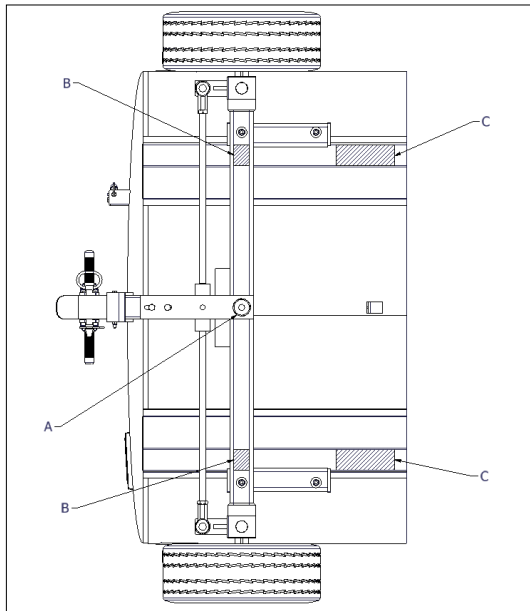
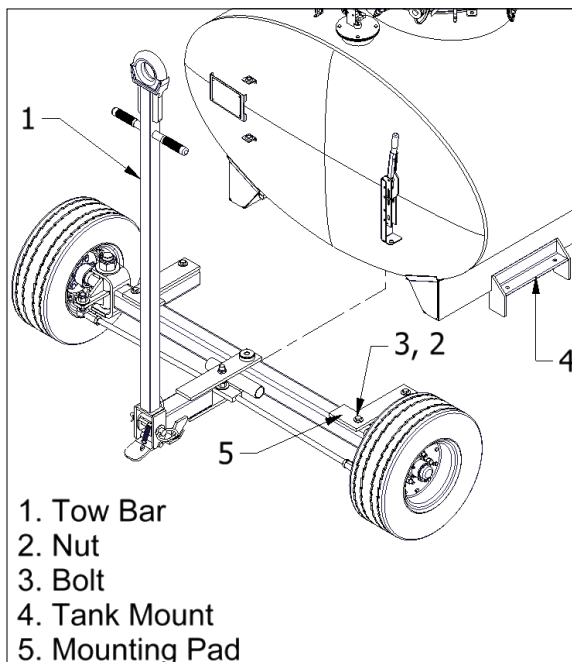

Figure 4-14 Lift Points
Figure 4-18 Front Undercarriage Removal
- Raise equipment with suitable maintenance jack (see Figure 4-14, arrow A for jack placement) high enough to remove wheel assembly.
- Place approved jack stands under front axle (see Figure 4-14, arrow B for stand placement).
To remove the entire Front Undercarriage assembly, the equipment must have the front end raised. See Figure 4-14 for lift points. See figure 4-18 for front undercarriage removal.
- a. Raise equipment with suitable maintenance jack (see Figure 4-14, arrow A for jack placement) To allow four inches of space between the wheels and ground.
- b. Place cribbing under tank skids (see Figure 4-14, arrows labeled C) to safely support the equipment.
- e. Remove bolts (2) and nuts (3).
- g. Pull Front Undercarriage forward. Note location of rubber mounting pads (5).
- a. Raise equipment with suitable maintenance jack high enough to remove wheel assembly. (see Figure 4-14, arrow A for jack placement).
- b. Place approved jack stands under rear axle (see Figure 4-14, arrow B for stand placement).